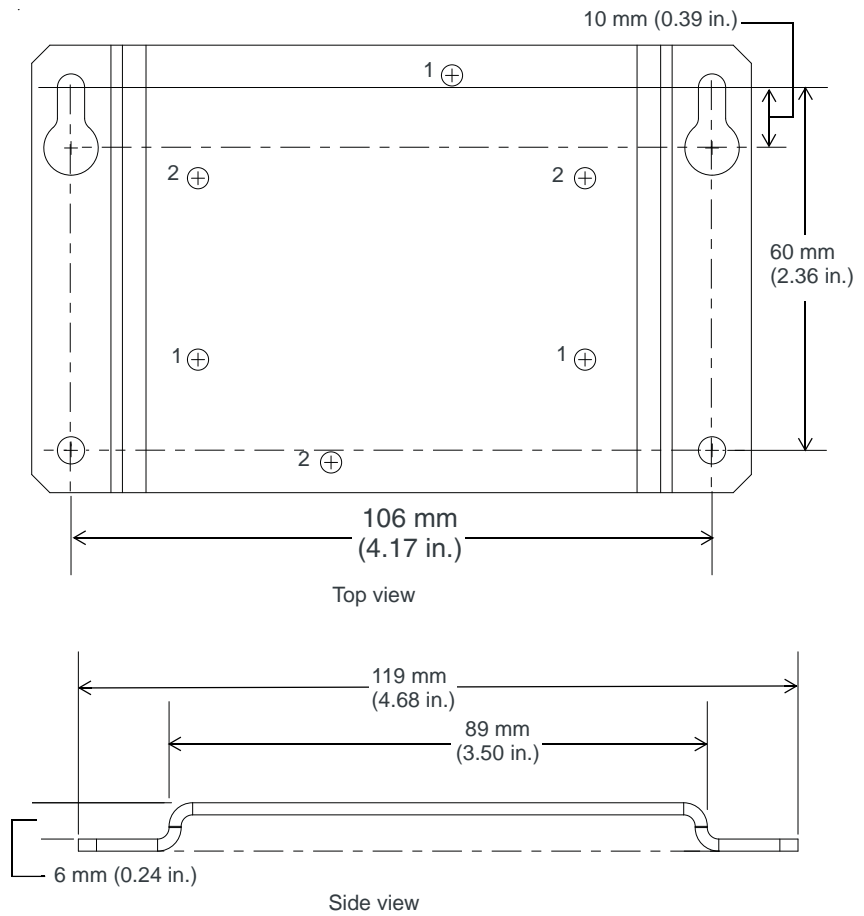

Figure 2-6: LS300 Mounting Bracket for flat surfaces
1. Line up the LS300 with either set 1 or set 2 holes, depending on the desired orientation. (See Figure 2-6.)